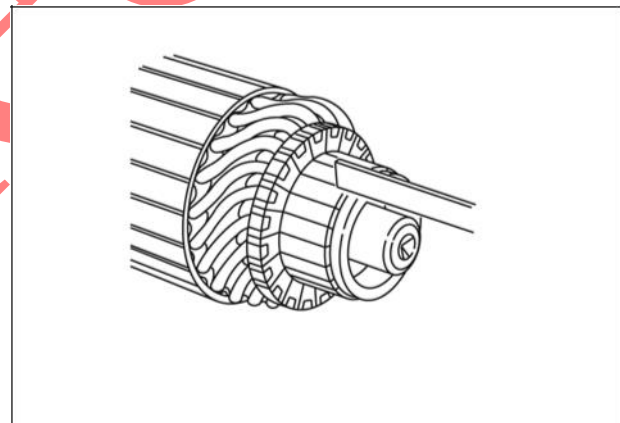

Figure 62
1. Use a digital multimeter to check for continuity between field coil wire and brushes (Figure 62).